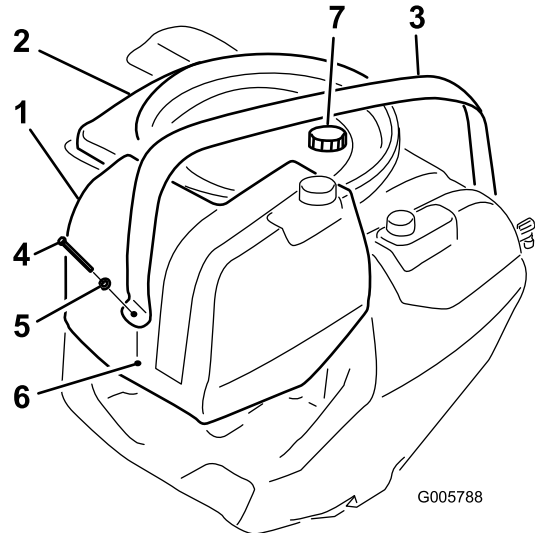

Figure 11
2. Lift the front tank strap and remove the rinse tank (Figure 11). Remove the cap from the rinse tank and retain.